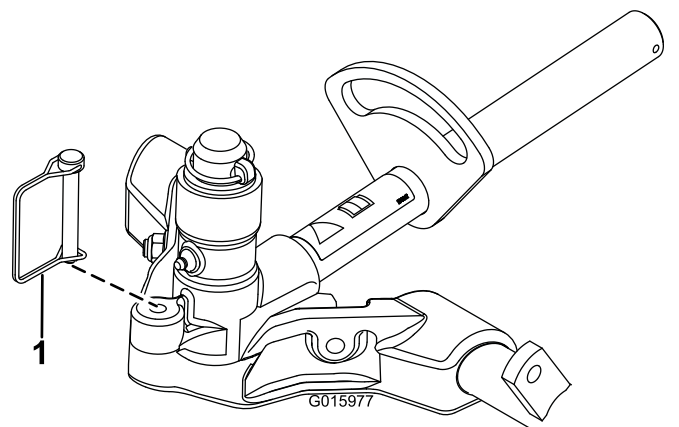

Figure 17
11. To lock (fix) the steering on the cutting units, secure the pivot yoke to the carrier frame with the snapper pin (Figure 17).